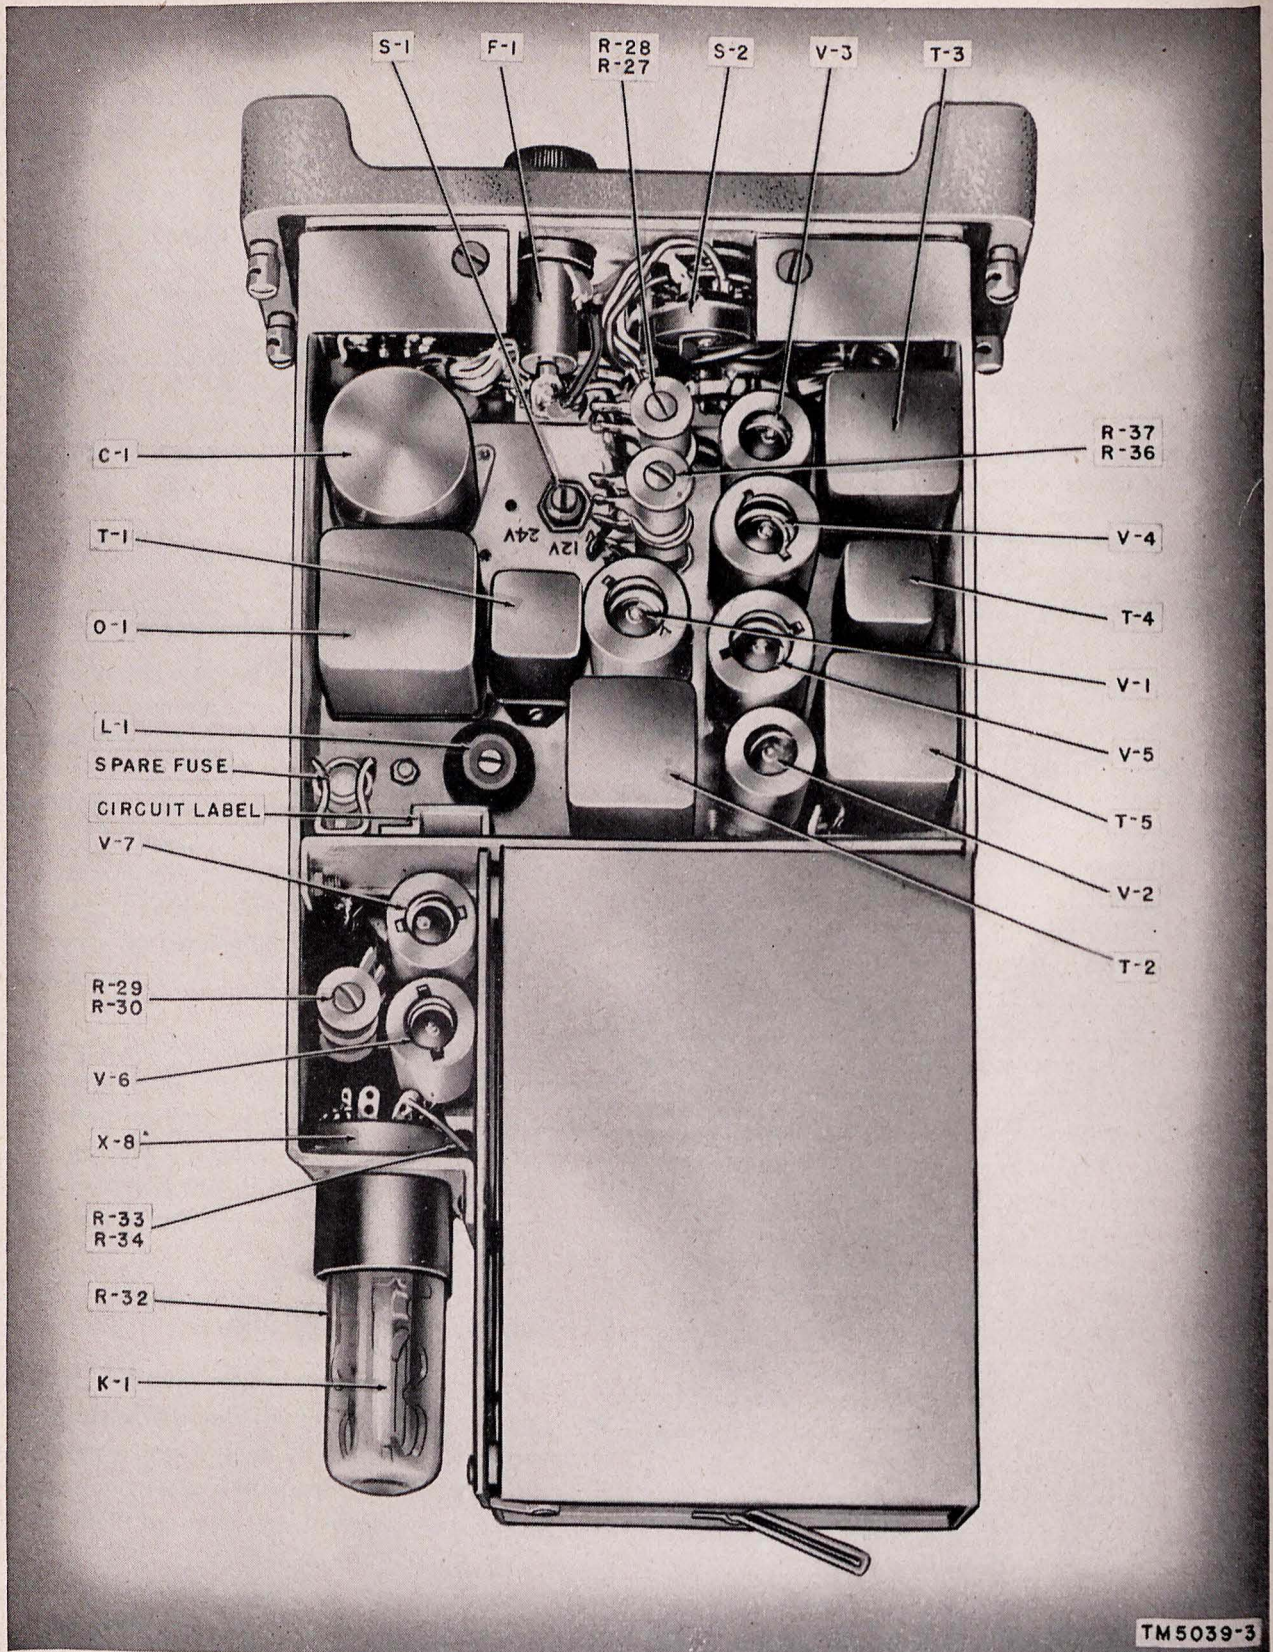

Figure 40. AF Amplifier AM-65/GRC, top view of chassis.
a. **FUSE.** The panel-mounted fuse may be removed by unscrewing the fuse cap which serves as a fuse extractor. A spare fuse is located in a fuse clip on the amplifier chassis (fig. 40).
b. **THERMAL RELAY AND BALLAST TUBE.** Thermal relay K-1 and ballast tube R-32 are mounted in a horizontal position at the rear of the amplifier chassis (fig. 40). After removing the panel chassis assembly from the case (par. 88), remove the relay or ballast tube with a horizontal pull. Do not rock or jiggle the component in its socket; the socket prongs may be damaged.
c. **TUBES.** All tubes are accessible from the top of the chassis when the case has been removed (fig. 40 and par. 88). To remove any tube, first remove the tube shield and then use a tube puller. Do not rock or jiggle a tube in its socket; the tubes are easily damaged by careless handling.